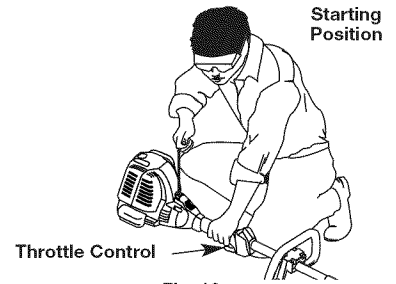

Fig. 12
**WARNING:** Avoid accidental starting. Make sure to be in the starting position when pulling the starter rope (Fig. 12). To avoid serious injury, the operator and unit must be in a stable position while starting.
4. With the unit in the starting position, **do not squeeze the throttle control** (Fig. 12). Pull the starter rope in a controlled motion until unit starts.
4. With the unit in the starting position (Fig. 12). Place the Plug-In Power Start or Power Bit Start into the back of the unit. Refer to Operation section of the Plug-In Power Start or Power Bit Start operator's manual.
5. **Do Not squeeze the throttle control**, press and hold the Plug-In Plug-In Power Start or drill's ON (I) button for 2 second intervals until unit starts.